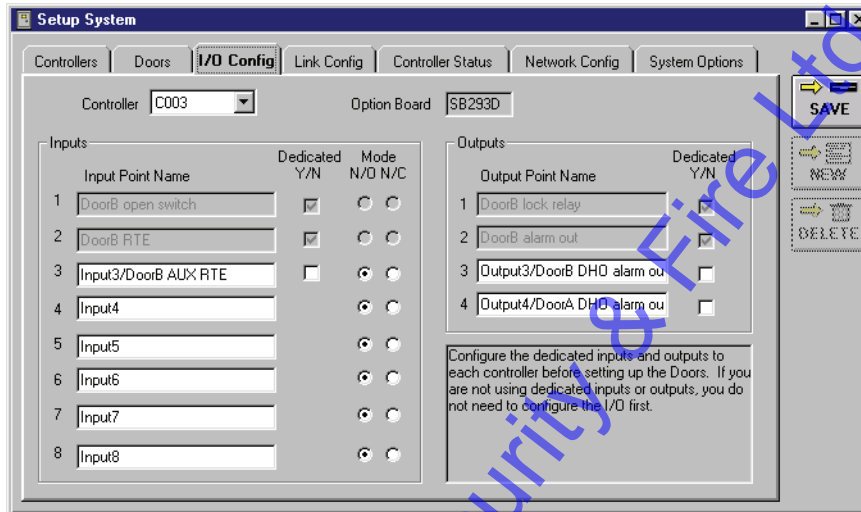
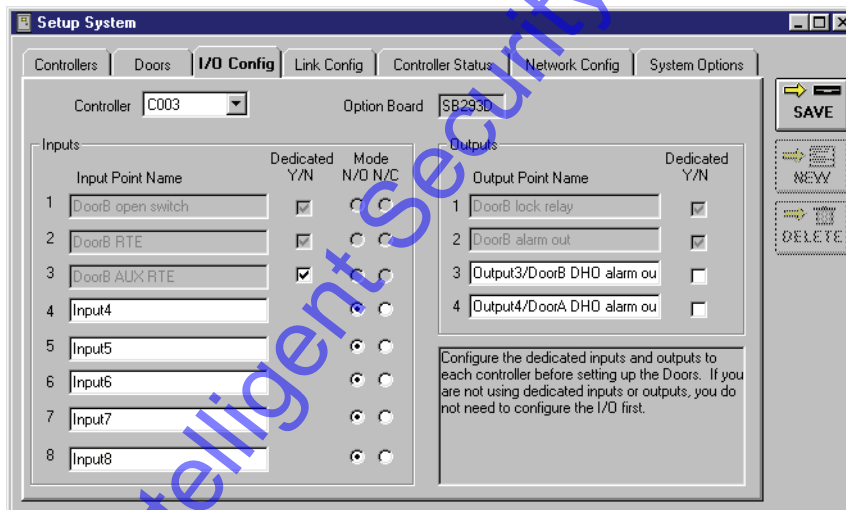

Figure 3-11: Input/Output Points Available for Dedicated Assignment
Figure 3-12: Dedicated Input Point
This section describes the process for configuring the dedicated input and output points to be used by the system. Certain input/output points on a PXL-250/PXL-500 Controller or SB-293/SB-593 Satellite board are automatically dedicated to input/output functions (i.e. the Door-A RTE input, the Door-A door switch input, the Door-A alarm output, the Door-A lock output). However, if controllers/doors in an access control network need to use the Auxiliary RTE input or need to have separate annunciation of Door Forced and Door Held Open alarms, the inputs and outputs required to perform these functions must be assigned/dedicated to these functions (see Figure 3-11). This will enable the appropriate options within the controllers and doors databases so that these features can be implemented.
2. Click on the **I/O Config** tab. The I/O config window appears (see Figure 3-11 on page 17 of this section).
5. To configure the point as the auxiliary RTE input, click in the check box in the “Dedicated Y/N” column beside Input Point 3 (see Figure 3-11 on page 17 of this section). When there is a check in the box, the point is dedicated (see Figure 3-12). The name changes to “DoorB AUX RTE” to show the point has been dedicated. To return this point to a general purpose input, click in the check box again and remove the check mark.